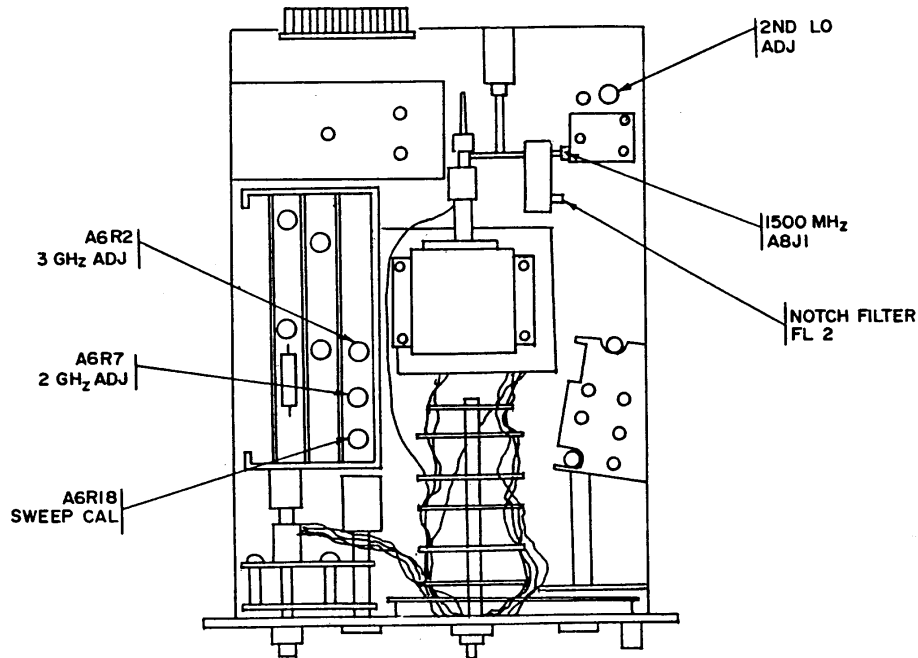

Figure 11. Test instrument - adjustment locations.
(1) Connect frequency counter to 1500 MHz A8J1 (fig. 11), using cable (Hewlett-Packard, Model 115926001, part of service kit). NOTCH FILTER FL2 assembly (fig. 11) must be disconnected and removed for this connection.
(2) Adjust **2ND LO ADJ** (fig. 11) as necessary to obtain frequency counter indication between 1499.9 and 1500.1 MHz (R).
(3) Disconnect frequency counter and reinstall NOTCH FILTER FL2 assembly removed in (1) above.
(4) Set **BANDWIDTH** switch to **100 kHz** and **SCAN WIDTH PER DIVISION** switch to **20 MHz**.
(5) Set IF plug-in **SCAN TRIGGER** switch to **LINE**.
(6) Adjust **FREQUENCY** control to **0 MHz**.
(7) Adjust **A6R2 3 GHz ADJ** (fig. 11) to place local oscillator feed-through signal at center graticule line on display (R).
(8) Adjust **FREQUENCY** control for 1000.0 MHz.
(9) Adjust **A6R7 2 GHz ADJ** (fig. 11) to place 1000 MHz signal pip at center graticule line on display (R).
(10) Set **SCAN WIDTH PER DIVISION** switch to **2 MHz** and repeat (6) through (9) above until displayed pip appears within ± 1 division of center graticule line with **FREQUENCY** control settings of 0 and 1000 MHz.
(11) Set **BANDWIDTH** switch to **300 kHz** and **SCAN WIDTH PER DIVISION** switch to **100 MHz**.
(12) Adjust **FREQUENCY** and **FREQUENCY FINE TUNE** controls to place local oscillator feed-through signal at left graticule line.
(13) Adjust signal generator for output frequencies of 200, 400, 600, 800, and 1000 MHz, respectively. Note position of signal pips on display.
(14) Adjust **A6R18 SWEEP CAL** (fig. 11) to position pips to coincide with their respective graticule lines (R).
(15) Repeat paragraphs **26 a** through **27 a** above.